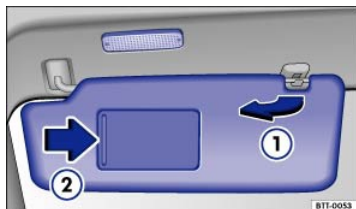

Fig. 83 Sun visor.
- Lift it out of the retaining clip ⇒ Fig. 83① and swivel it over toward the door.
A vanity mirror is behind a cover in the sun visor. A light may come on when you slide the cover open ⇒ Fig. 83②.